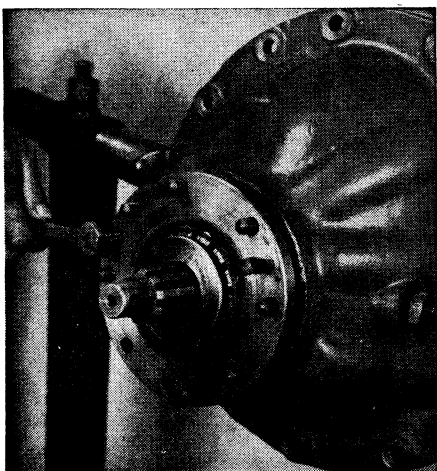

Fig. 79 Removing bearing cage, using puller screws in holes provided
15. Remove bearing cage, using puller screws in holes provided, Fig. 79. The use of a pinch bar will damage the shims. Driving pinion from inner end with a drift will damage the bearing lock ring groove.